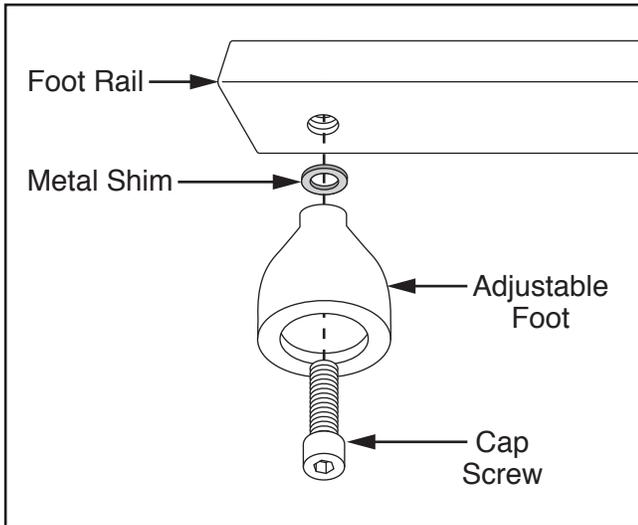

Figure 5. Leveling machine with metal shim.
1. Loosen cap screw attaching each adjustable foot to foot rail (see **Figure 5**) using 6mm hex wrench.
2. Place metal shims (as required) between adjustable foot and foot rail until machine is level (see **Figure 5**).